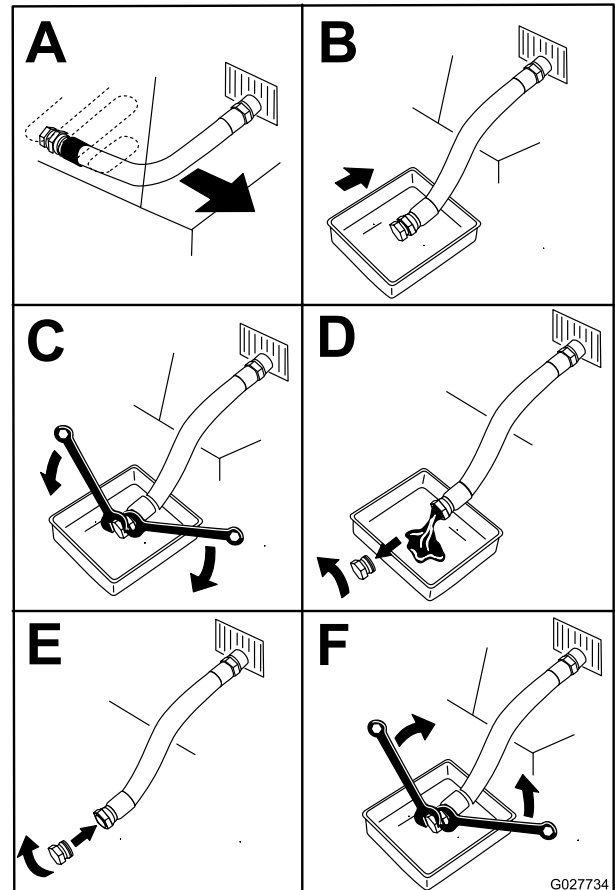

Figure 51
5. Drain the oil from the engine (Figure 51).